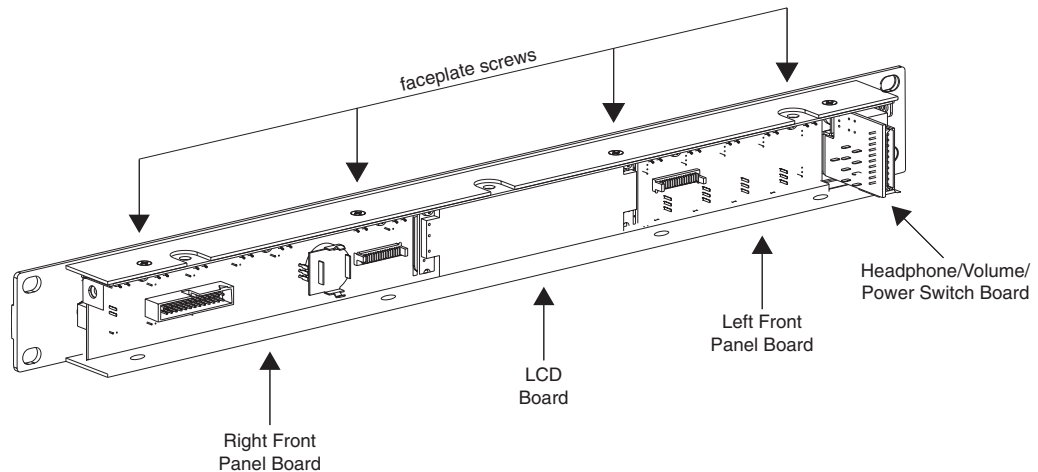

Figure 3-5 Front panel faceplate screw locations
2. Refer to Figure 3-5 on page 3-10. Four flat head machine screws secure the front panel faceplate to the Front Panel Assembly. These screws are located along the top of the Front Panel Assembly.
Figure 3-5 shows the position of the boards on the Front Panel Assembly and the placement of the front panel faceplate screws located above the boards. Refer to the procedure for the front panel board you need to remove and follow the steps described.
4. It is not necessary to remove the front panel faceplate to remove the Right Front Panel Board. Two of the screws that secure the front panel faceplate to the Front Panel Assembly are located above the Right Front Panel Board. Refer to Figure 3-5 and remove the two screws.
4. It is not necessary to remove the front panel faceplate to remove the LCD Board. One screw that secures the faceplate to the Front Panel Assembly is located above the LCD Board. Refer to Figure 3-5 and remove the screw.
3. It is not necessary to remove the front panel faceplate to remove the Left Front Panel Board. One screw that secures the front panel faceplate to the Front Panel Assembly is located above the Left Front Panel Board. Refer to Figure 3-5 and remove the screw.